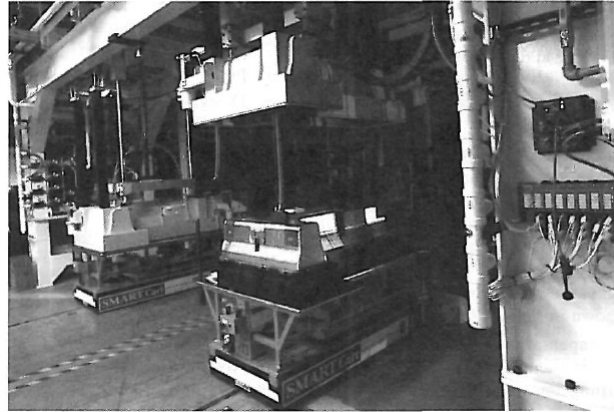

Figure 1: Automated guided carts.
1. Self-guided vehicles, such as that shown in Figure 1, are used in factories to transport products from station to station. One method of construction angle is to embed a